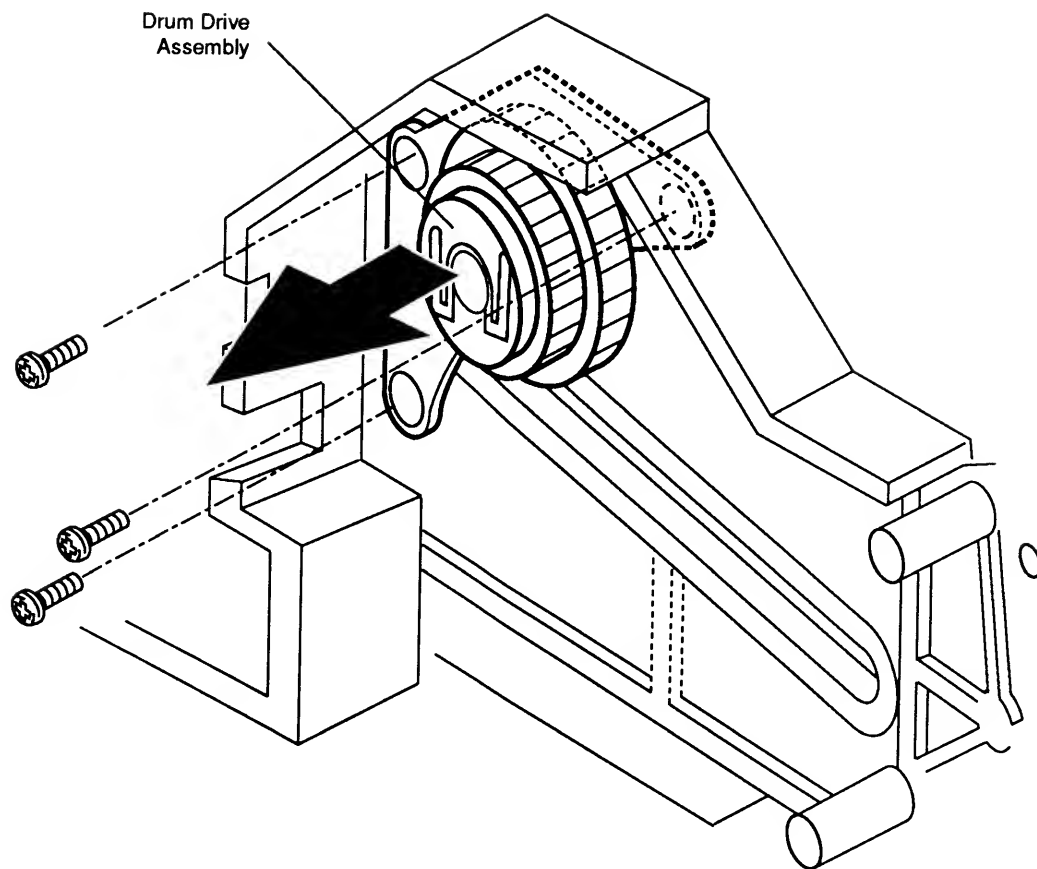

Figure 2-39 Drum Drive Assembly
3. Remove the three silver-colored screws that secure the drum drive assembly to the printer chassis (**Figure 2-39**).
4. Remove the drum drive assembly from the printer (**Figure 2-39**).